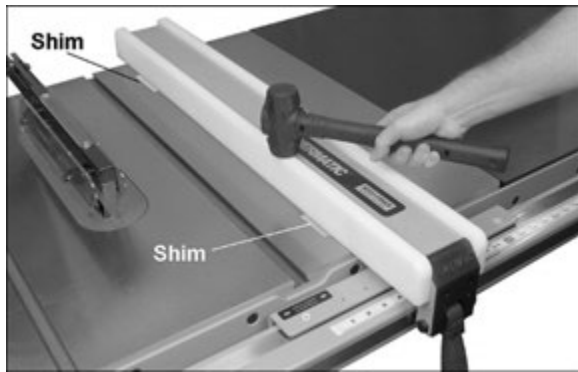

Figure 6-15
- Reposition Accu-Fence on table and place the plastic shims (included with shipping contents) beneath side plates. Tap the sides down until they contact the shims as shown in Figure 6-15.